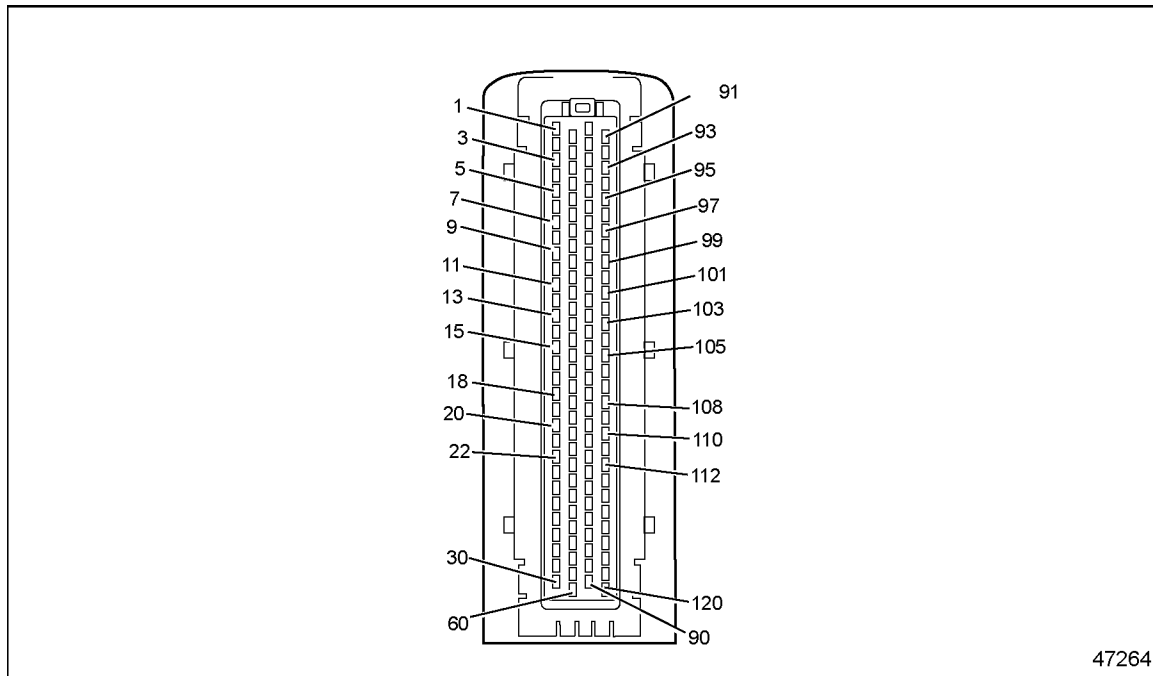

Figure 62-1 120-pin MCM Connector
- [a] If voltage is present, repair the short to power between pin 3 of the Rear Injector Harness 12-pin connector and pin 17 of the 120-pin MCM connector. See Figure 62-1. Refer to section 62.1.1.1.
- [a] If voltage is present, repair the short to power between pin 5 of the Rear Injector Harness 12-pin connector and pin 19 of the 120-pin MCM connector. See Figure 62-1. Refer to section 62.1.1.1.
- [a] If voltage is present, repair the short to power between pin 9 of the Rear Injector Harness 12-pin connector and pin 21 of the 120-pin MCM connector. See Figure 62-1. Refer to section 62.1.1.1.